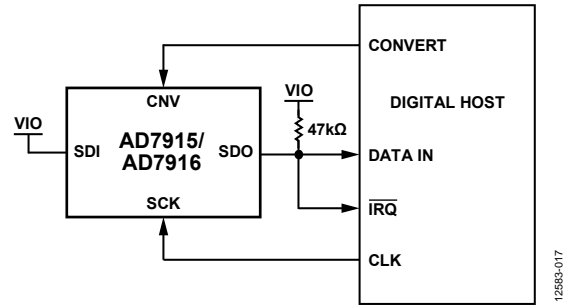
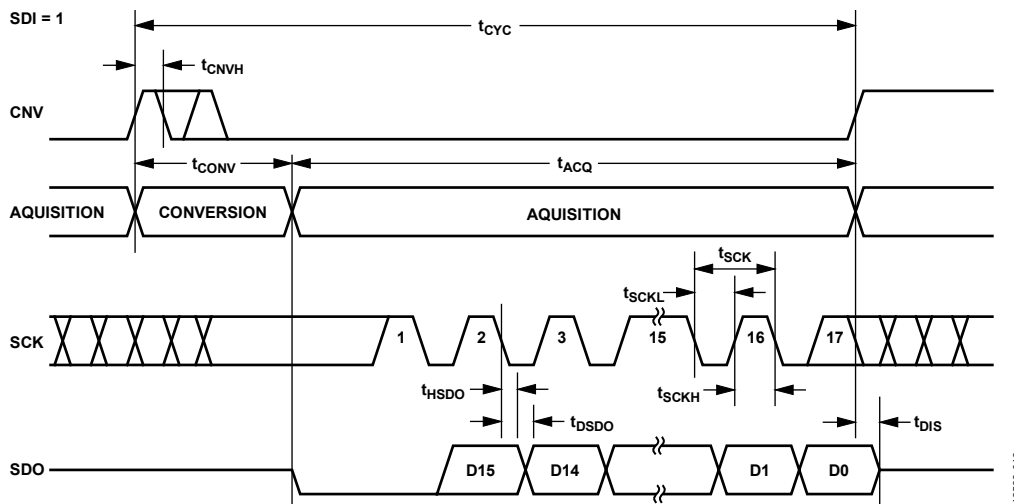
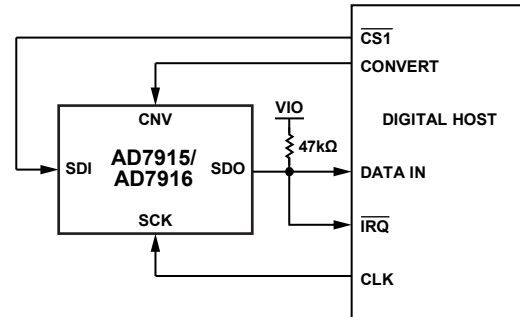
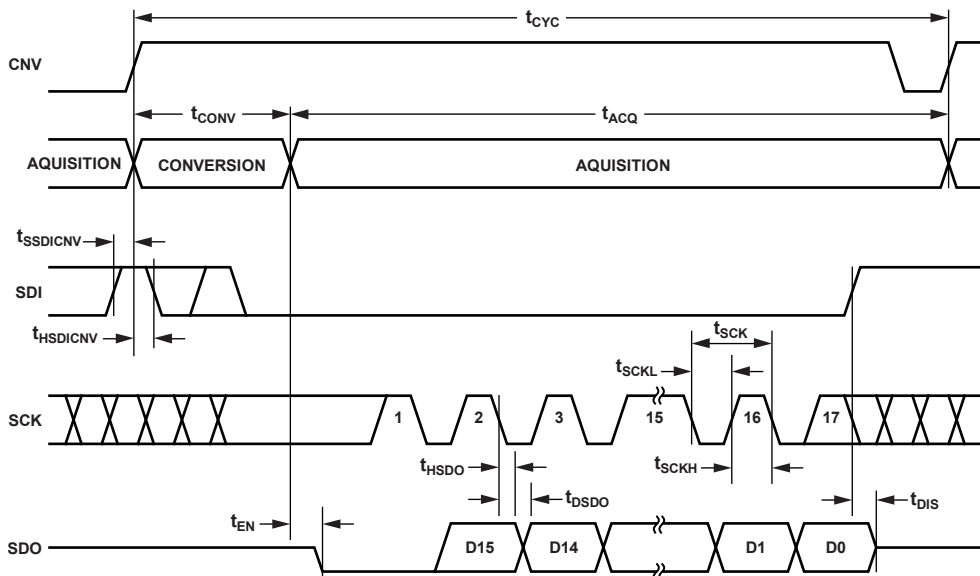

Figure 37. 3-Wire  $\overline{\text{CS}}$  Mode with Busy Indicator Connection Diagram (SDI High)
Figure 38. 3-Wire  $\overline{\text{CS}}$  Mode with Busy Indicator Serial Interface Timing (SDI High)
Figure 41. 4-Wire CS Mode with Busy Indicator Connection Diagram
Figure 42. 4-Wire CS Mode with Busy Indicator Serial Interface Timing
- in  $\overline{\text{CS}}$  mode if CNV or SDI is low when the ADC conversion ends (see Figure 38 and Figure 42).
The connection diagram is shown in Figure 37, and the corresponding timing is given in Figure 38.
The connection diagram is shown in Figure 41, and the corresponding timing is given in Figure 42.